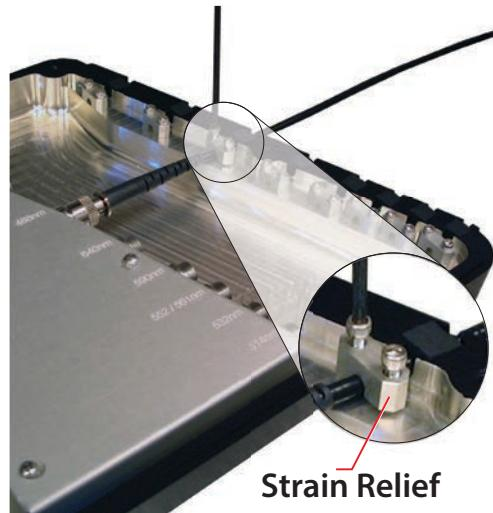

Figure 13-14. Secure the Strain Relief Screws
4. Using the 5/64" hex wrench, secure the strain relief using the two screws that were previously removed, as shown in Figure 13-14. Torque the screws to 1 in-lb.